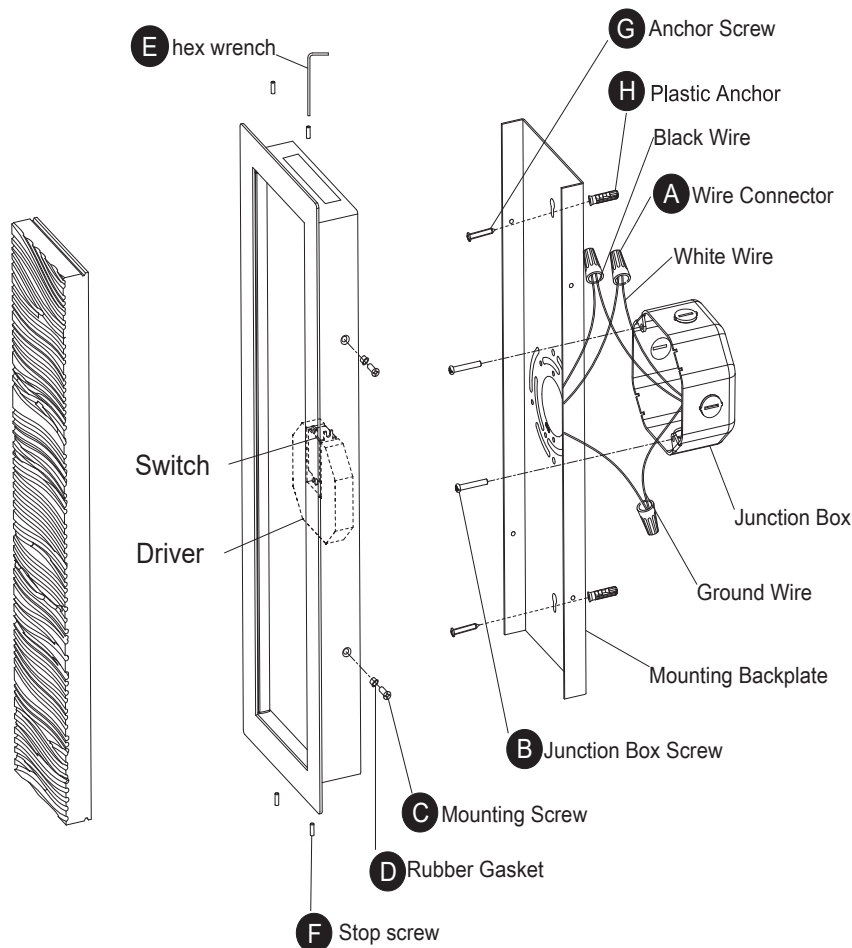

Fig.2 Wiring
5. Connect the Driver's input wires to junction box wires as shown in Fig. 2, making sure that all wire connectors (A) are secured. If your outlet box has a green or bare copper ground wire, connect the fixture's ground wire to it. Otherwise, connect the fixture's ground wire directly to the back plate using the green screw provided. After wires are connected, tuck them carefully inside the junction box.